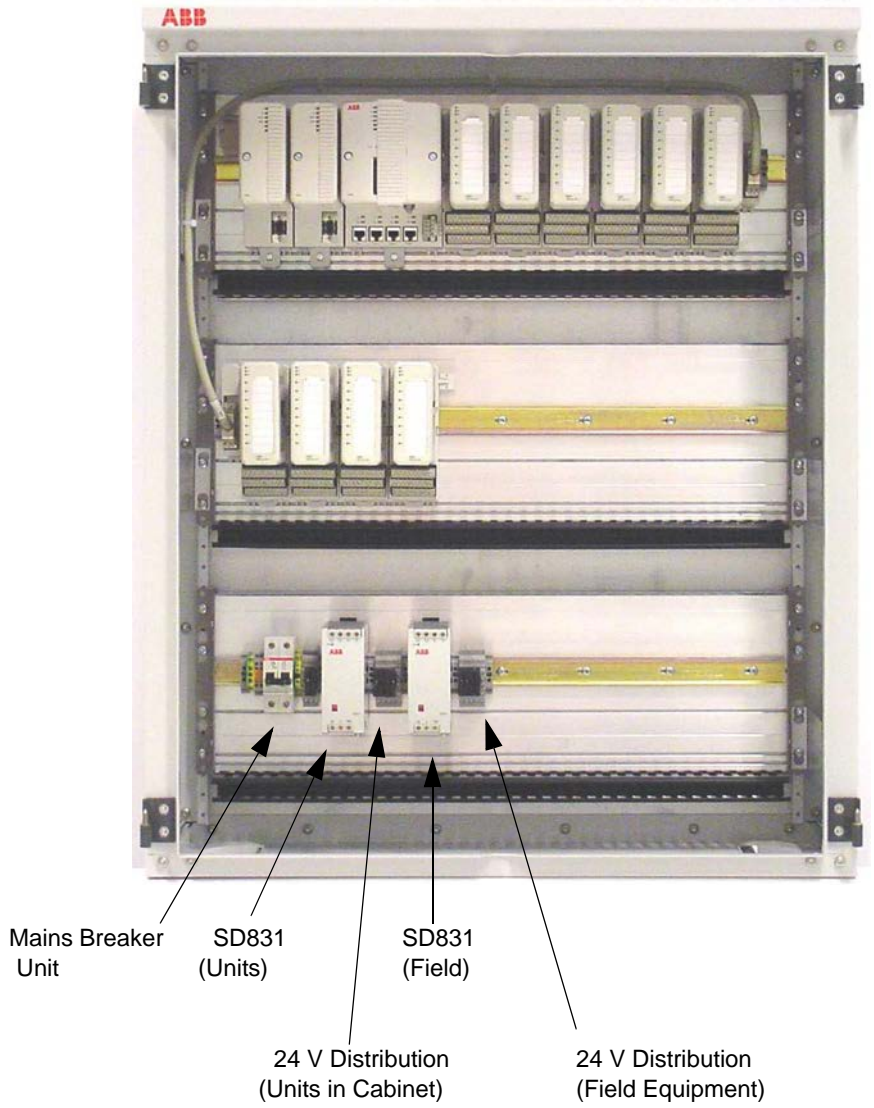

Figure 2.41: Wall Cabinet – Dual Power Supply (Local/Field) Arrangement
- Figure 2.41 on page 142: Wall Cabinet – Dual Power Supply (Local/Field) Arrangement